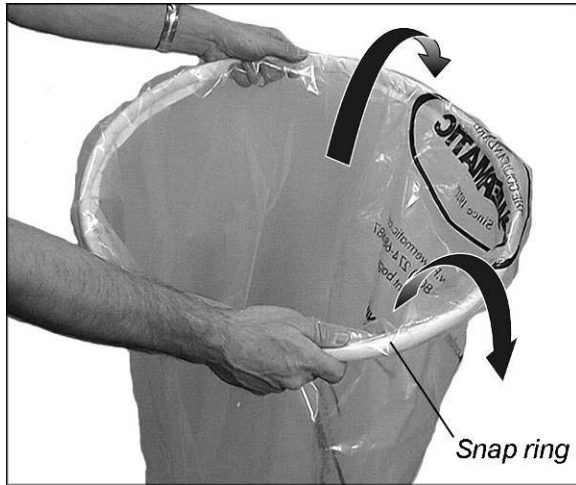

Figure 8
- Place the *snap ring* over the top of the *plastic collector bag*, and fold over the bag approximately three inches (Figure 8).